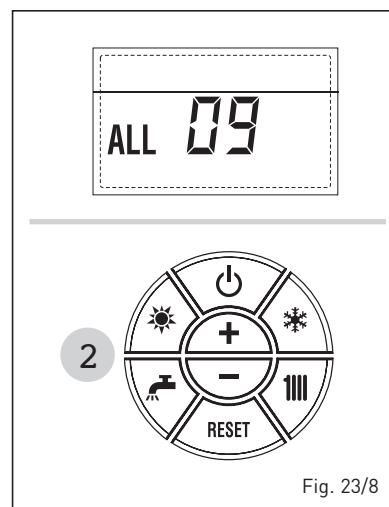

Fig. 23/8
**- AUXILIARY SENSOR ANOMALY ALARM 10 (fig. 23/9)**
**BOILER WITH ACCUMULATION:** anomaly of the D.H.W. sensor (SB). When the D.H.W. sensor is open or short circuited, the display will show anomaly ALL 10. The boiler will function but will not modulate power for the D.H.W.
**BOILER ONLY FOR HEATING:** antifreeze sensor anomaly (SA) for boilers which foresee the use of antifreeze sensors.